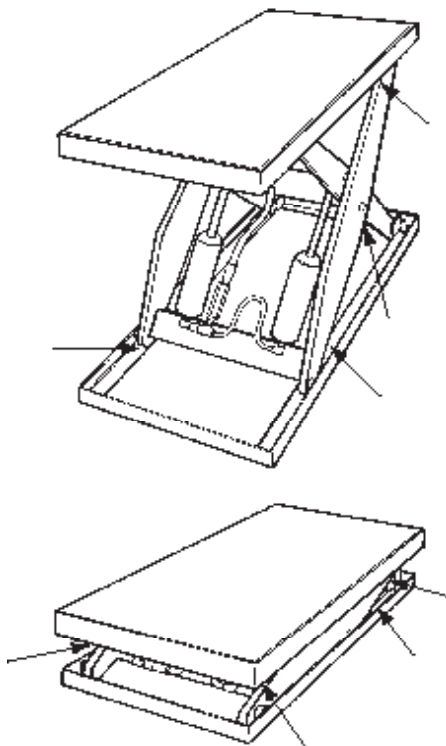

FIGURE 2:
- As the lift moves up and down, "pinch points" are formed as shown in Figure 2. Keep hands, feet, and loose clothing away from these pinch points. If your hand or arm or a part of your clothing is caught, you may be hurt.